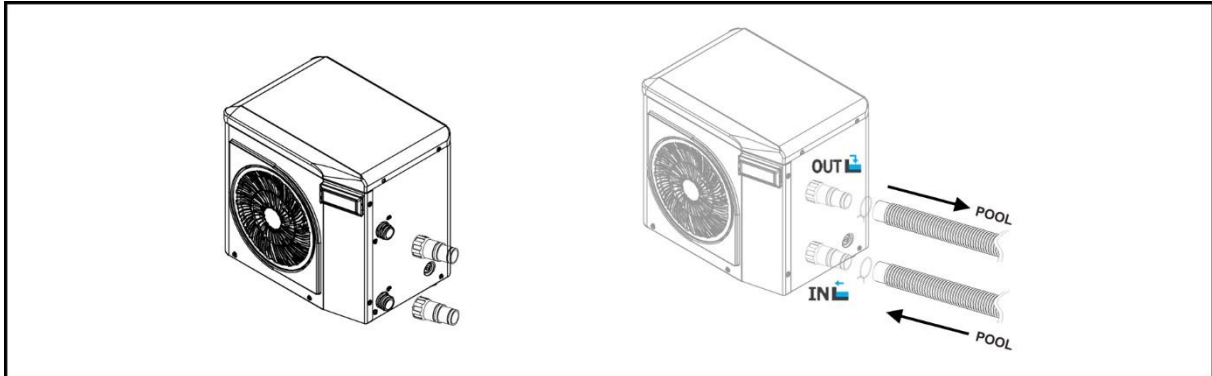

Fig. 4
- Now connect the pool hose coming from the circulating pump to the lower connection (IN).
- Now connect the pool hose in the direction of the pool to the upper connection (OUT) (Fig. 4).